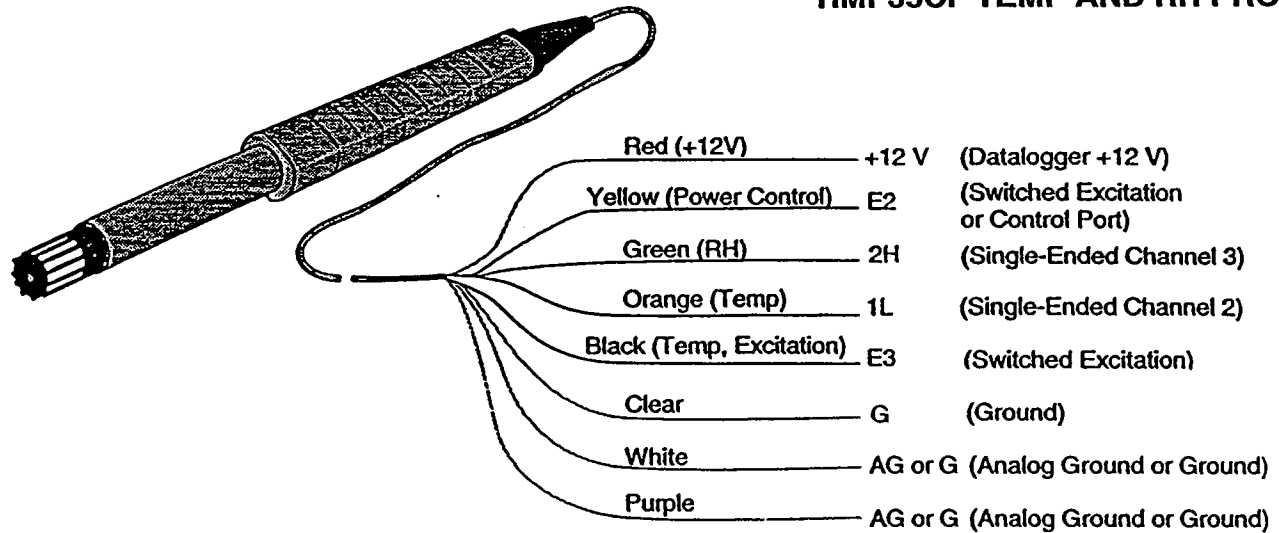

FIGURE 2. HMP35CF Probe Datalogger Connection
Connections to the datalogger for the HMP35CF are shown in Figure 2. The probe requires two single ended analog measurements, the green (RH) and the orange (temp.) leads can be inserted into either HI or LO inputs.